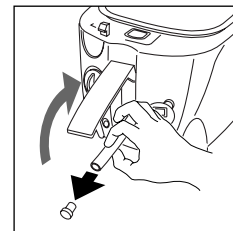

fig. 8
3. Remove the cap (as shown in Fig. 8) and at the same time hold the hose between two fingers to prevent the liquid from being released until the end of the tube has been placed in a container.